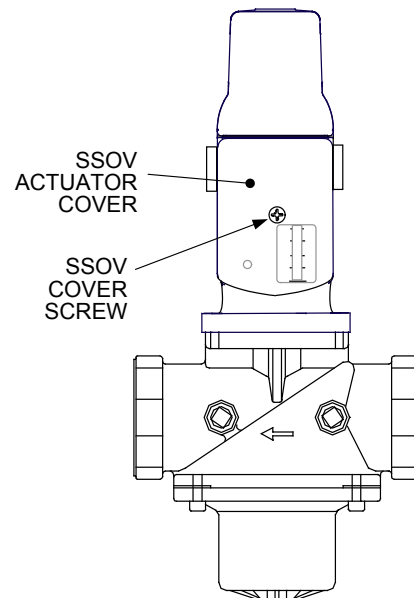

Figure 5.6
2. Remove the Safety Shut-Off Valve (SSOV) cover to access the terminal connections. See Fig. 5.6. For units with IRI gas trains, access the terminal connections of the downstream SSOV (see drawing SD-A-606 in Appendix E).